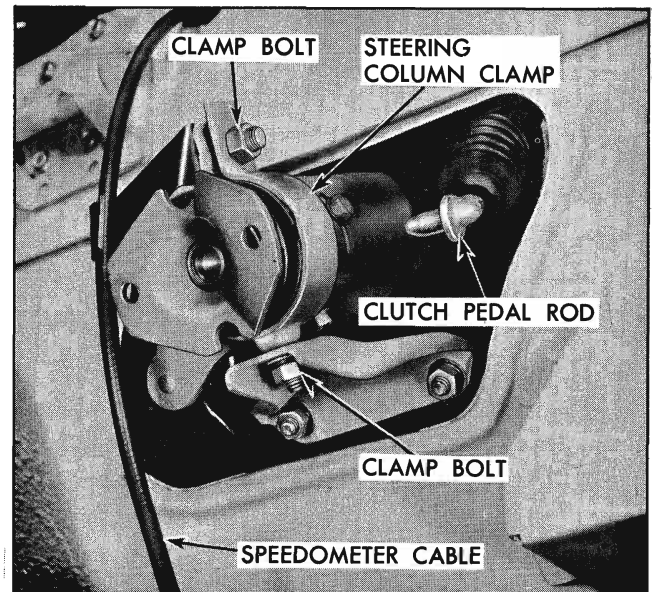

Fig. 9-11 Location of Nut and Washer
2. Remove nut and washer from bottom steering column clamp bolt (Fig. 9-11).